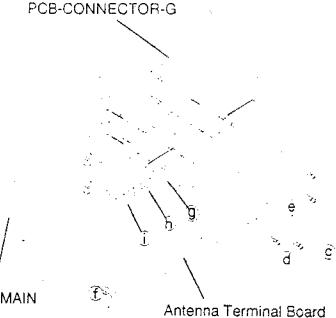

Fig. 10
- (2) Remove four screws (⑪, ⑫, ⑬ and ⑭), unfasten five catches (⑮ ~ ⑯) on the Antenna Terminal Board as shown in Fig.10, and remove the Antenna Terminal Board.
- (3) Raise the PCB-CONNECTOR-G upward to remove it.